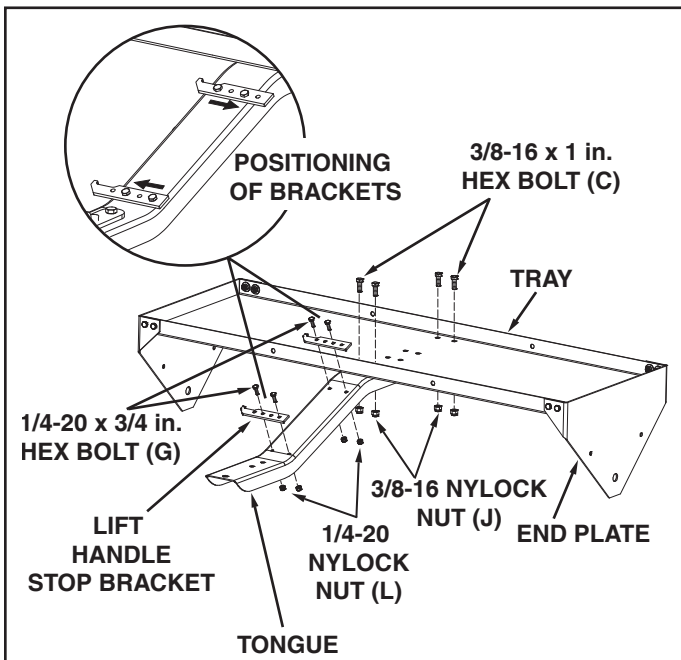

FIGURE 8
- Fasten the lift handle stop brackets to the tongue in the positions shown using four 1/4-20 x 3/4 in. hex bolts and four 1/4-20 nylock hex nuts. See figure 8.
- Assemble the tongue to the tray using four 3/8-16 x 1 in. hex bolts and four 3/8-16 nylock hex nuts. See figure 8.